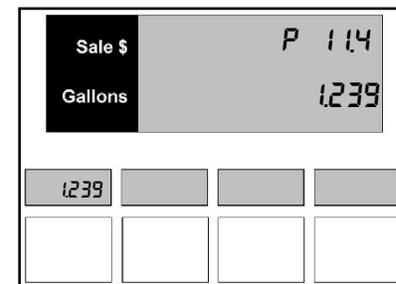

Figure 4.2 – New Product Price
3. When the first digit of the new price is entered. The main display will show zeros and indicates the new digit in the right most digit. The PPV display continues to flash the old price. When the correct price appears in main display, press the **Enter** button. The PPV display now contains the new price as shown in *Figure 4.2*. **Note:** If an error is made, press the **0** through **9** buttons on the keypad until the correct price appears in the PPV display.